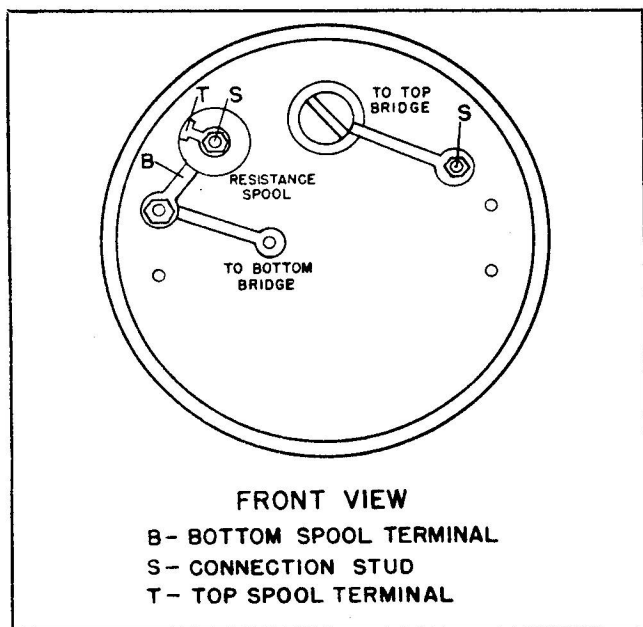

Figure 2-9. Pictorial Wiring Diagram
**2-97. TESTING.** (See figure 2-9).